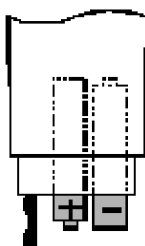

Fig. 8: Battery replacement
3. Insert new batteries of the same kind (see § 6.1.3) respecting polarity signs (see Fig. 8).